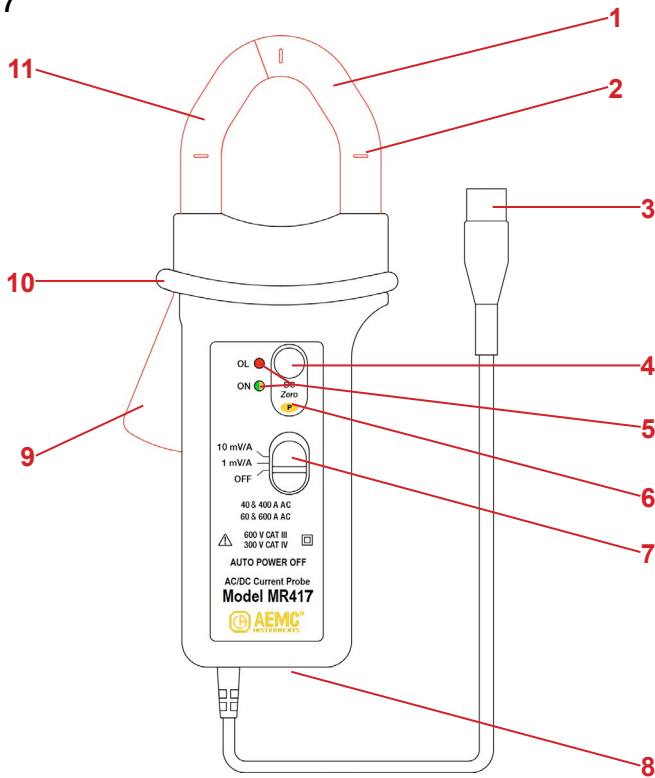

Figure 1 (MR417)
2. Clamp the jaws around the conductor to be measured. Use the centering marks on the jaws to position the clamp around the conductor. If the measurement is for a power calculation, ensure the arrow on the clamp jaws (see Figures 1 and 2) points in the right direction of the current flow: